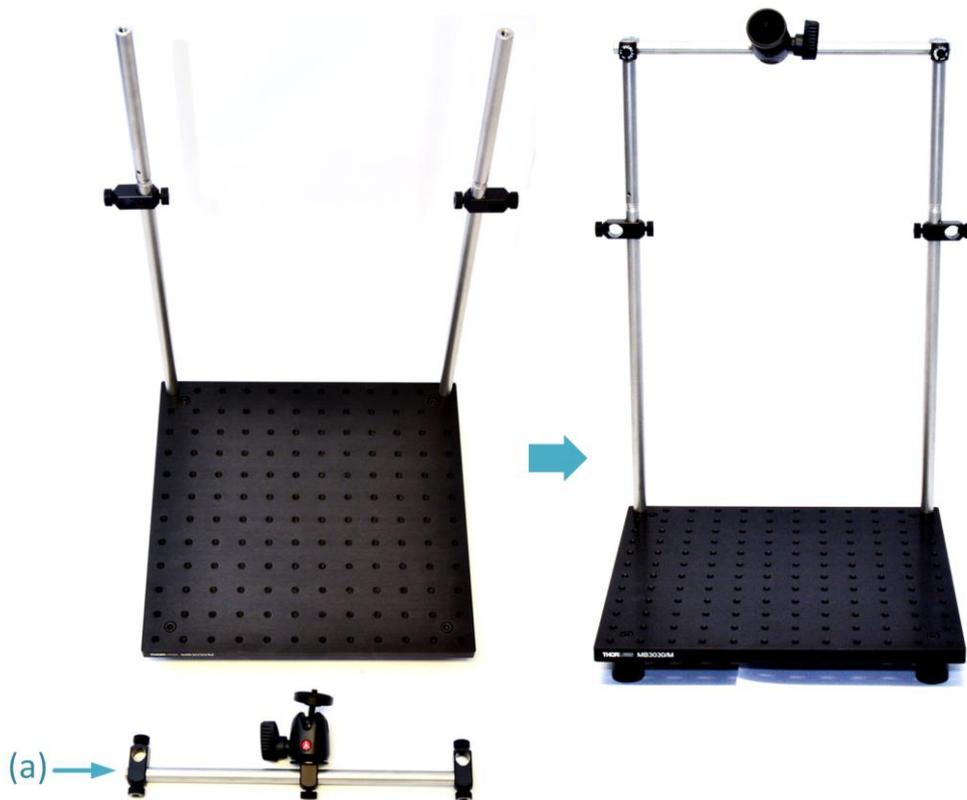

Figure 22 Assembly of top post with tripod head on the vertical posts (Step 3.5)
Step 3.5 Mount the top post on the vertical posts (Figure 22)
- a. Slide the assembled top post (from Step 3.4) on to the vertical posts and fix them on the top edge, as shown in Figure 22.